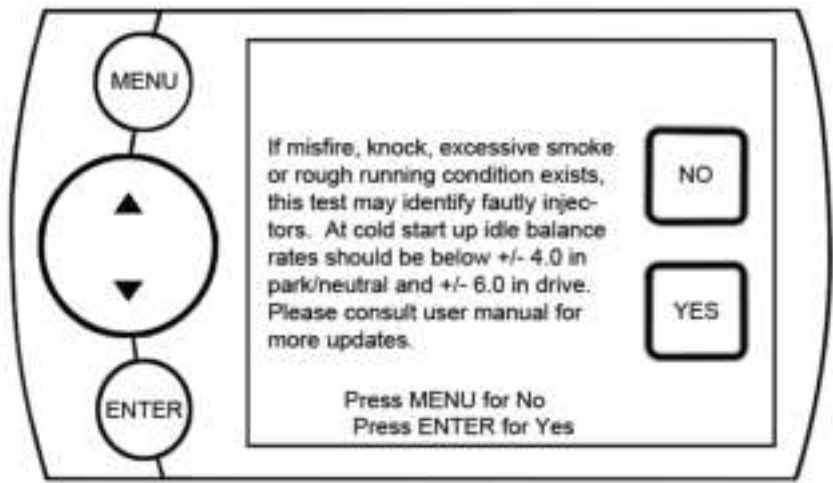

Figure 11
1. Select **Injector Balance Rates** from the **Diagnostics** screen. You'll be prompted by the following screen. (Figure 11)